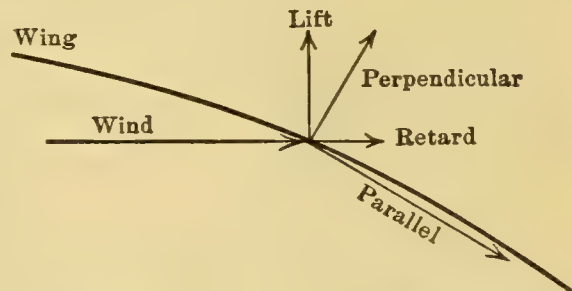

FIGURE 547. — FORCE DIAGRAM OF AN AIRPLANE.
in moving forward, tend to push the air forward and downward; the reaction of the air against the wings tends to move them upward and backward. The backward motion is prevented by the drive of the propeller, but the upward component of the air's reaction (Figure 547) increases as the speed of the
17. The tilted wing of an airplane is driven horizontally through the air (Figure 547, page 623). Show the horizontal motion of the air with reference to the wing and indicate the component of the force of the air that supports the airplane.